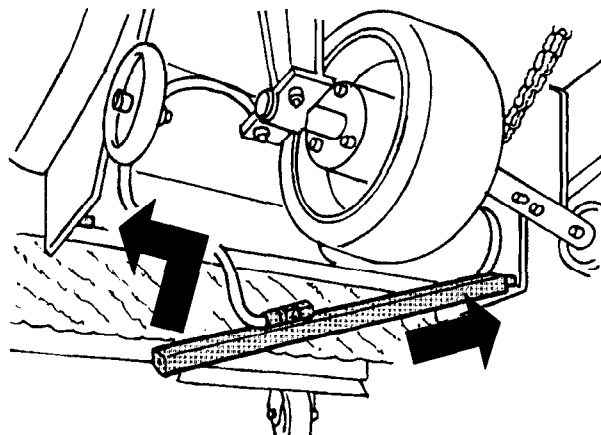

FIG. 34.
3. To remove defective spray bar, simply shift spray bar to operators left side of machine and pull down. (Figure 34)